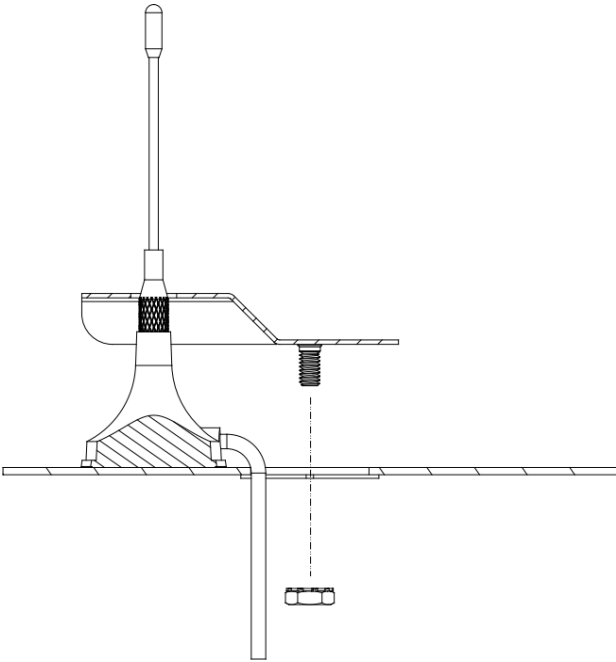

Figure 3-3: Antenna and antenna bracket
03. Secure the antenna by tightening the nuts from below, as shown in Figure 3-3: Antenna and antenna bracket